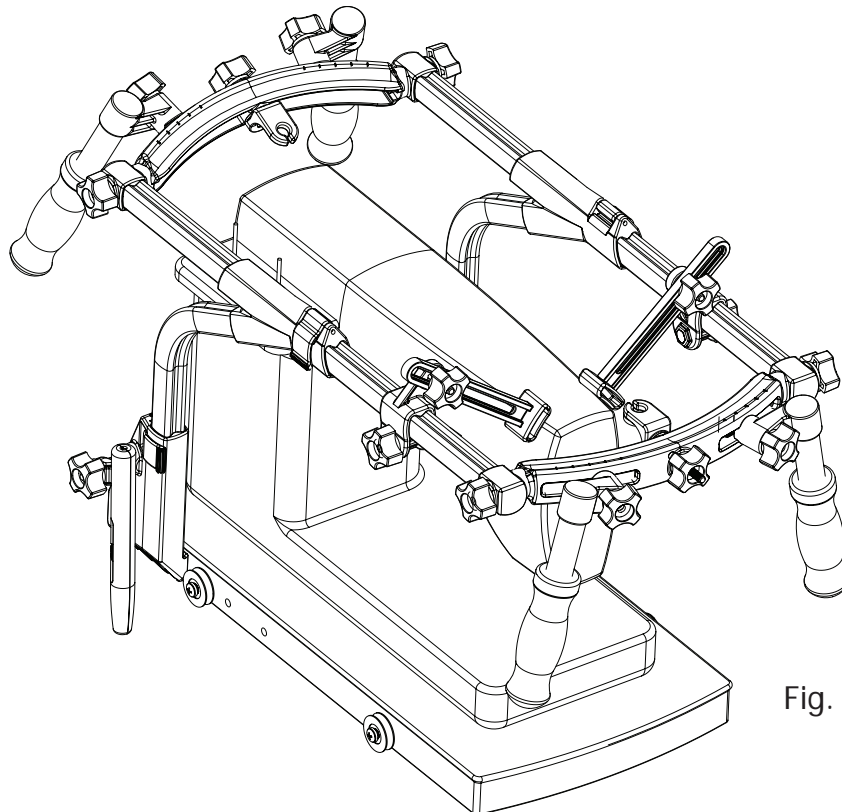

Fig. 22-2
Step 22-2: Slide your Head Clamps onto the forward portion of the Upper Carriage Handles, as shown in Fig. 22-2. (Note: there should be a Left, and Right Head Clamp, allowing the Plastic Knobs on the Head Clamps to face forward.) If there is not a Left and Right Head Clamp, the knobs can easily be moved to the front side, correcting the assembly. Re-attach the Knob, Spacer, and 35mm Hex Bolts (removed in step 22-1).